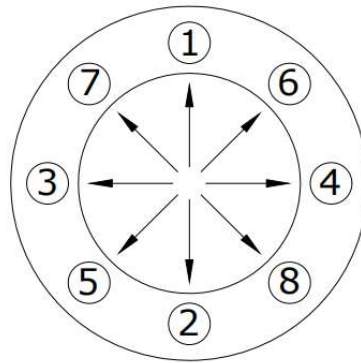

Fig 3.1 Procedure for Fastening Flange Bolts
- When assembling the flange-type valve, you should use a specified gasket, and install it in parallel with the other flange. Also, you are recommended to fasten the bolts in several parts in a balanced manner sequentially in diagonal direction. (See Fig 3.1)